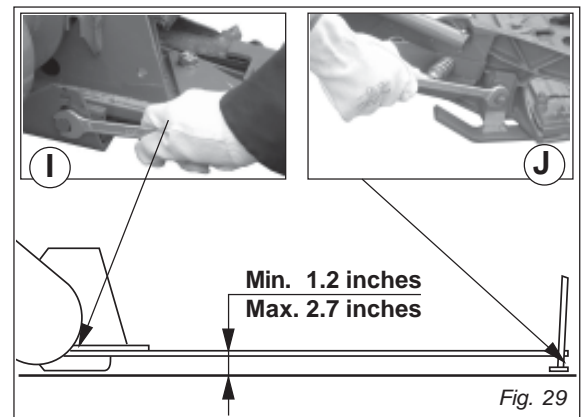

Fig. 29
- Adjust the cutting height (Fig. 29) by moving the mowing bar on the holes of the inner mowing bar support (I), and, turning the nut of the outer mowing bar support (J), bring it level with the ground.